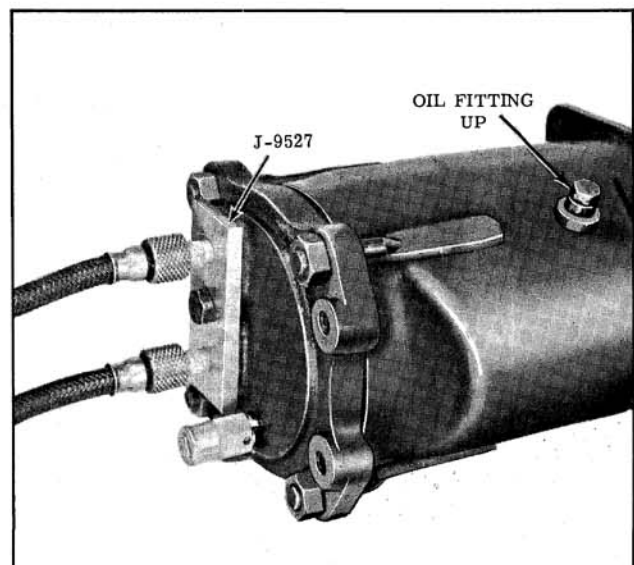

Fig. 14-116 Leak Testing Compressor
6. With Tool J-9527 installed on compressor (Fig. 14-116), leak test the compressor as follows: